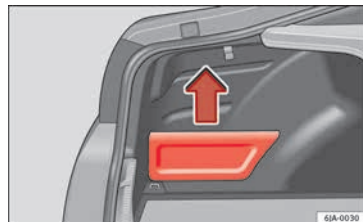

Fig. 160 Luggage compartment: storage compartment
- Hold onto the top of the lid and pull it out in the direction indicated by the arrow » Fig. 160.